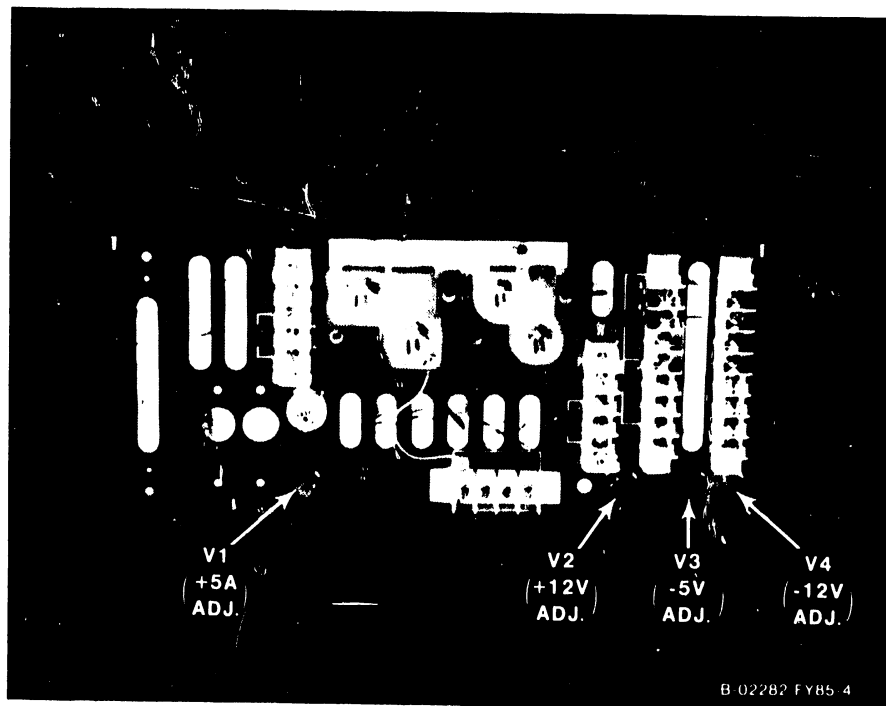

Figure 8-1. Multioutput Power Supply
4. The following power supply voltages should be measured at the test points on the Power Supply Controller. Adjust the voltages to the readings listed below using the potentiometers on the front of the multioutput power supply at the rear of the mainframe (figure 8-1).